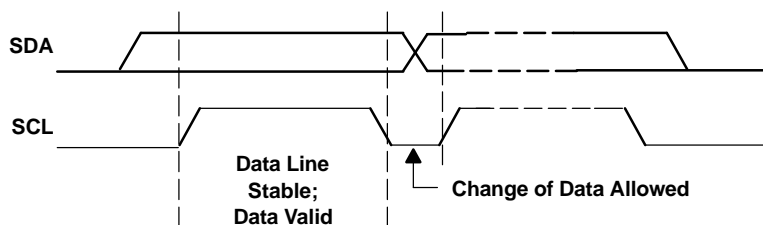
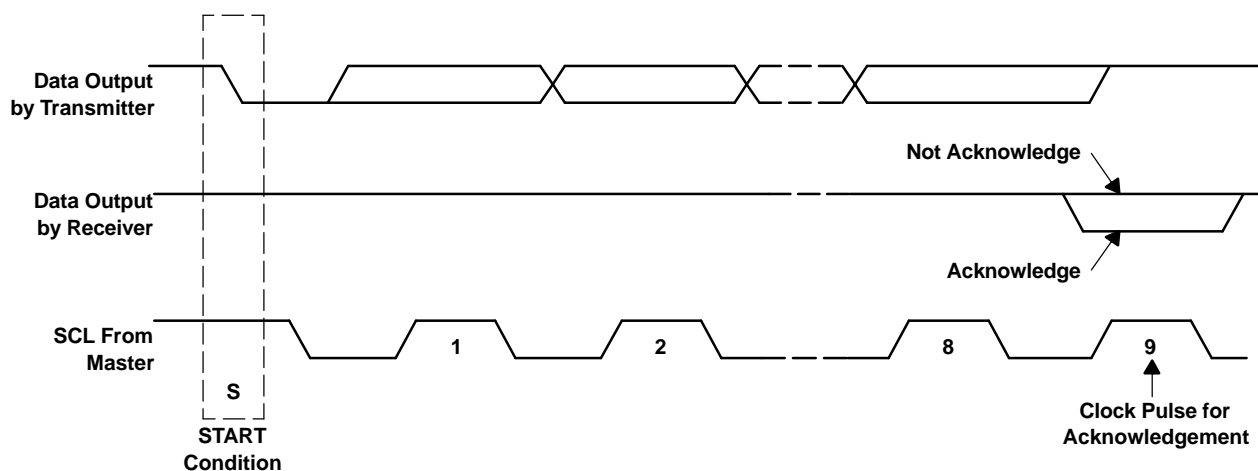

Figure 30. Bit Transfer on the I²C Bus
Figure 31. Acknowledge on the I²C Bus
- The master then generates the SCL pulses, and transmits the 7-bit address and the *read/write direction bit* R/\overline{W} on the SDA line. During all transmissions, the master ensures that data is *valid*. A *valid data condition* requires the SDA line to be stable during the entire high period of the clock pulse (see Figure 30). All devices recognize the address sent by the master and compare it to their internal fixed addresses. Only the slave device with a matching address generates an *acknowledge* (see Figure 31) by pulling the SDA line low during the entire high period of the ninth SCL cycle. Upon detecting this acknowledge, the master knows that communication link with a slave has been established.